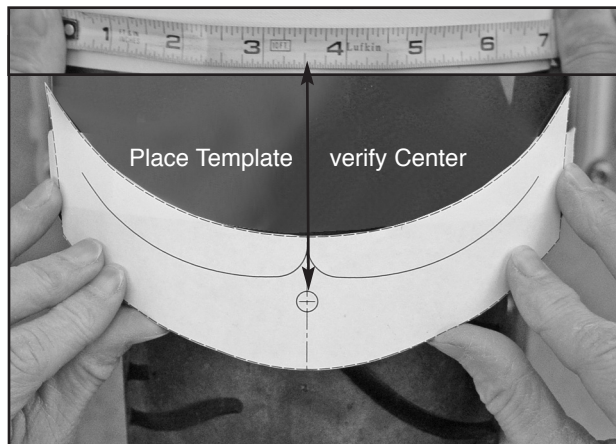

Figure 4
4. Tape template on fender. Align center of Template with center of fender. Front edge of template will be at the leading edge of the fender. (Tape) **Figure 4**
5. Verify the center mark of Template with a measuring tape across fender. Do a visual check, make adjustments if necessary. (Measuring Tape) **Figure 4**